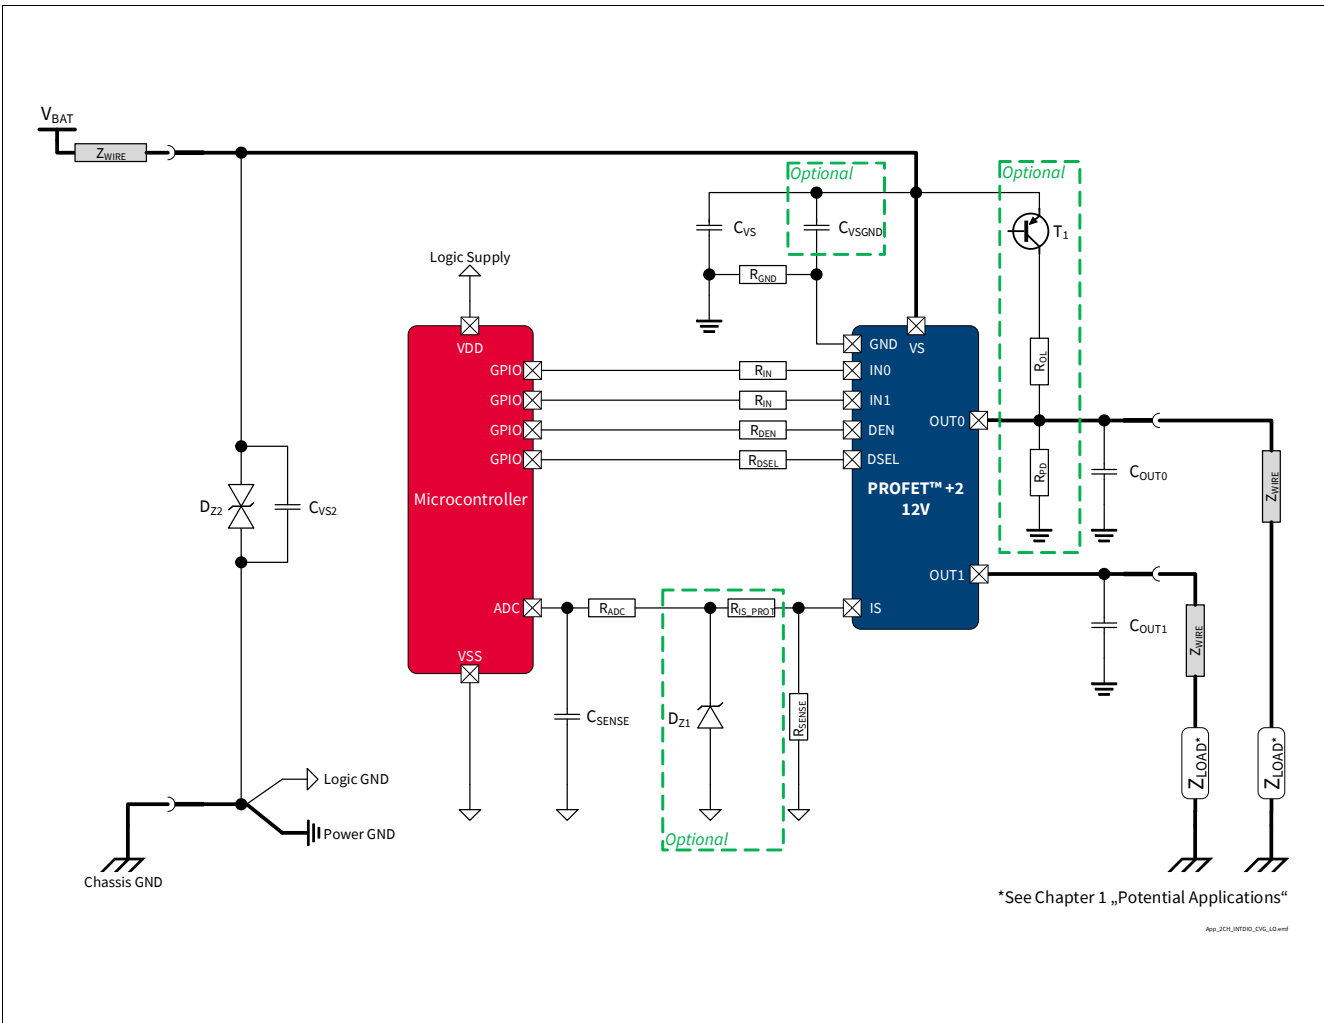

Figure 43 BTS7008-2EPA Application Diagram
1.14 , 2019-10-15	Chapter 8.2 updated P_8.7.1.1, P_8.7.1.7, P_8.7.1.8 updated (added in Note or Test Condition: link to Figure 25) P_7.5.1.4, P_7.5.1.5 updated (added in Note or Test Condition: DEN = “low”) P_7.5.1.12 updated (deleted unnecessary space in Symbol: $ dV_{OUT} / dt $ → $ dV_{OUT} / dt $) P_9.7.1.6 updated (Min./Typ./Max: -50%/5500/+50% → -35.0%/5400/+35.0%) P_9.7.1.9 updated (Min/Typ./Max: -42%/5500/+42% → -30.0%/ 5400/+30.0%) P_9.7.1.12 updated (Min./Typ./Max.: -40%/5500/+40% → -29.5%/5400/+29.5%) P_9.7.1.15 updated (Min./Typ./Max.: -25%/5500/+25% → -13.5%/5400/+13.5%) P_9.7.1.18 updated (Min./Typ./Max.: -8%/5500/+8% → -5.8%/5400/+5.8%) P_9.7.1.20 updated (Min./Typ./Max.: -6%/5500/+6% → -4.0%/ 5450/+4.0%) P_9.7.1.22 updated (Min./Typ./Max.: -5%/5500/+5% → -3.9%/5450/+3.9%) Figure 1 , Figure 43 updated Chapter 1 updated (or LED equivalent → or equivalent electronic loads (e.g. LED modules)) P_4.3.0.7 added Table 24 updated Chapter 5.1 updated (added: see Chapter 10 for the complete application setup overview)